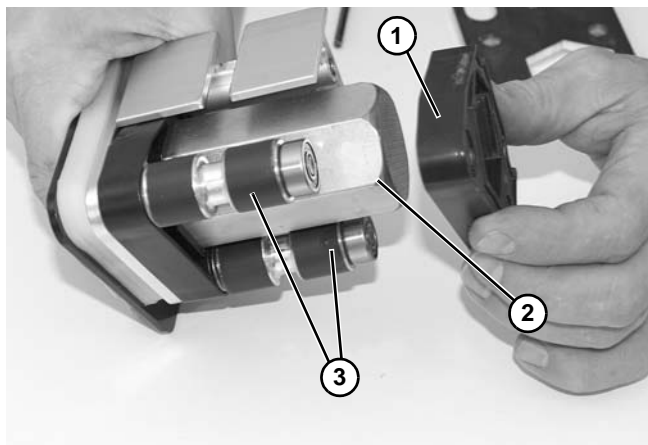

Figure 93
6. Slide spindle retainer (Figure 93, item 1) off of the hex shaft (Figure 93, item 2) to access spindles.
7. Remove spindles (Figure 93, item 3).